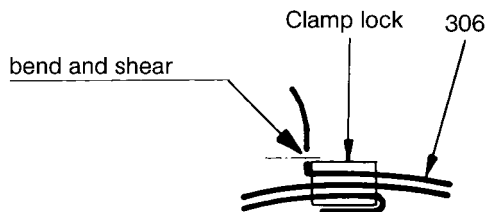

Fig. 12: Bending and shearing of the clamping band
- When using the clamping tool PoK-It II bent the clamping band (306) at the clamp lock after tightening by turning the clamping tool upwards, in order to prevent that the clamping band slides back through the clamp lock. After bending at the clamp lock the clamping band must be cut by sheet metal shears and the edges deburred (see Fig. 12).
ATTENTION Check whether the clamping band is sufficiently bent to prevent sliding back through the clamp lock (see Fig. 12). If this is not the case remove the clamping band and replace by a new one.